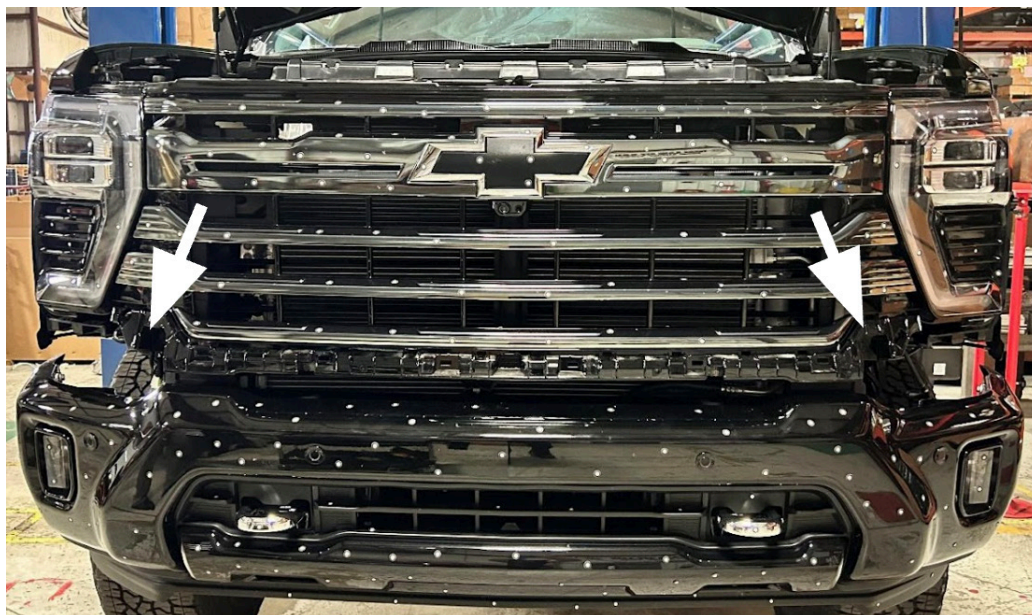

Figure 8
8. Using a 10mm socket wrench, remove the two (2) screws along the bottom of the grille. Figure 8